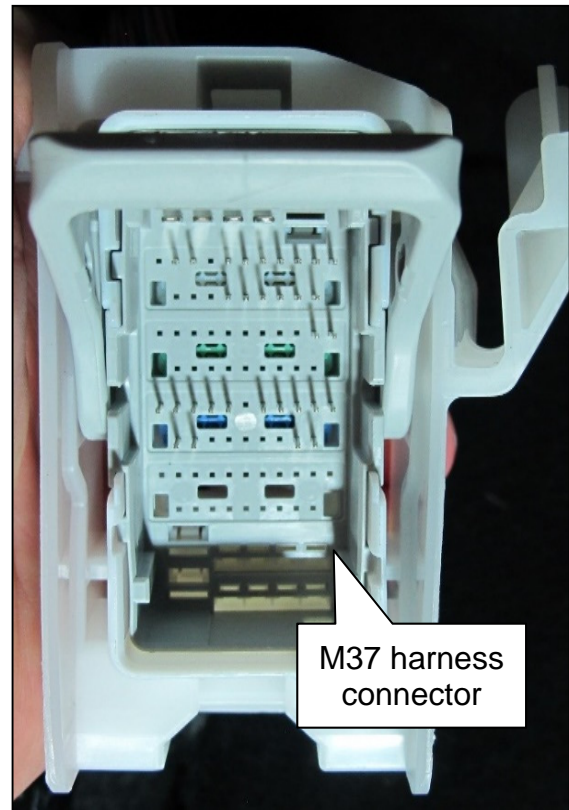
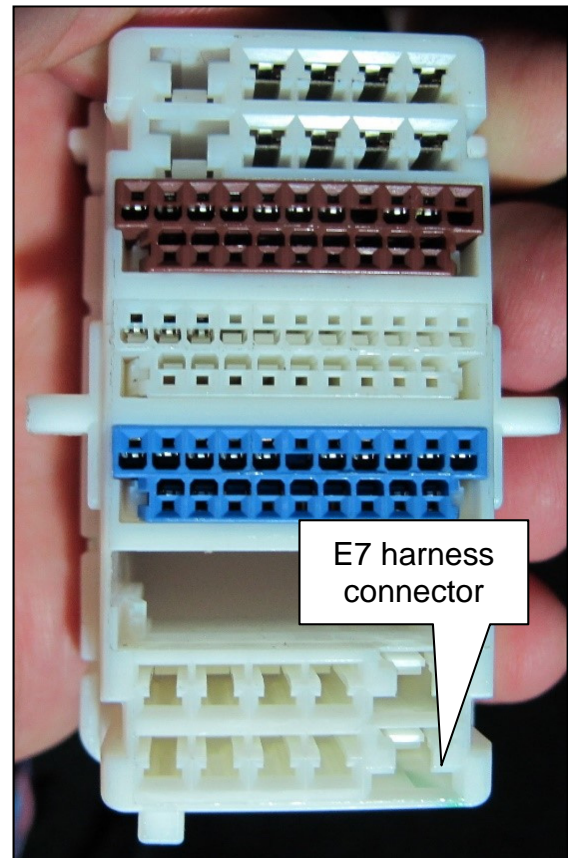

Figure 42
Figure 43
33. Visually inspect BOTH sides of the E7-M37 harness connector for water intrusion or corrosion (Figure 42 and Figure 43).